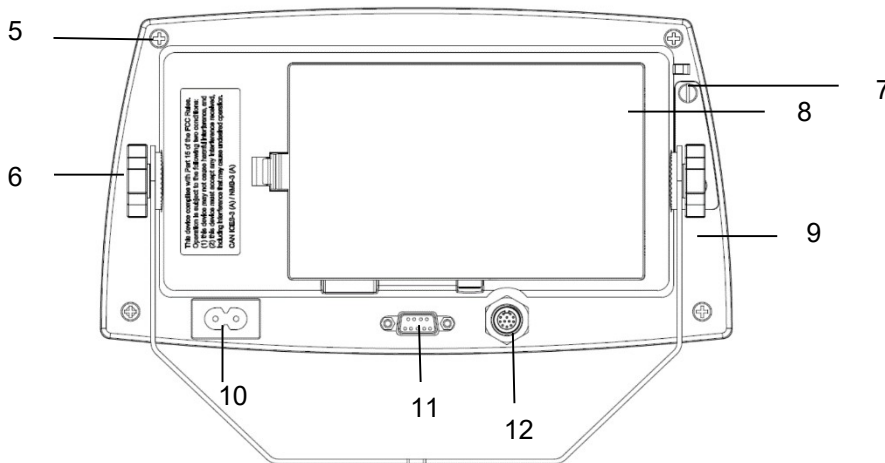

Figure 1-1 TD52P Indicator
OHAUS bases with a connector can be attached to the external load cell connector (Figure 1-1, item 12). To make the connection, plug the base connector onto the external load cell connector. Then rotate the base connector's locking ring clockwise. Refer to section 2.3.2 for bases without a connector.
Connect the optional RS232 cable to the RS232 connector (Figure 1-1, item 11).
Connect the AC power cord (supplied) to the power receptacle (Figure 1-1, item 10), then connect the AC plug to an electrical outlet.